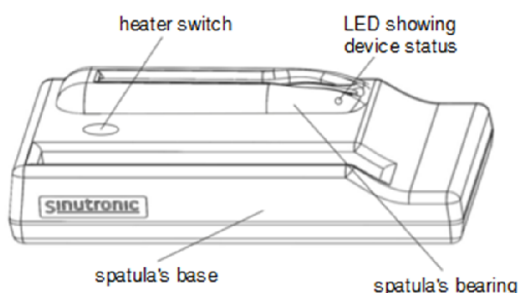
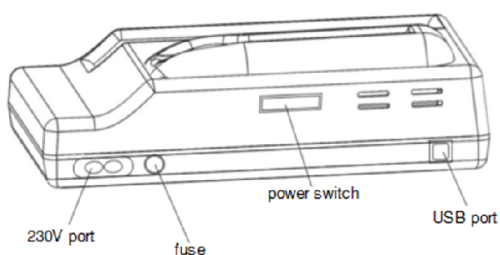
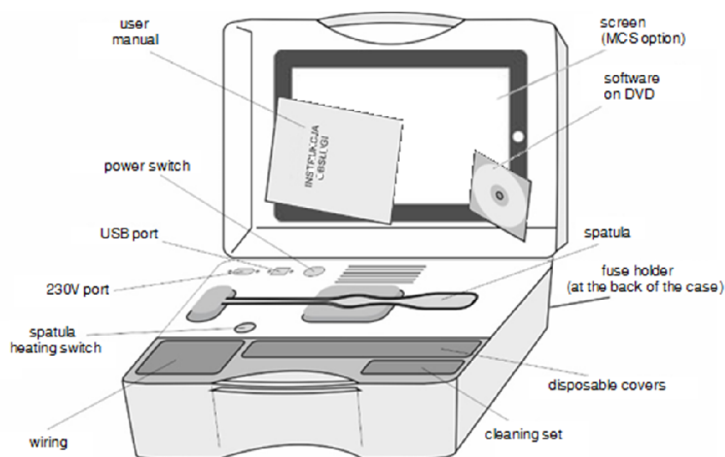

Fig. 2 Front view of base model L/LS/LCS/UC/UCS
Fig. 3 Rear view of base model L/LS/LCS/UC/UCS
Fig. 4 Base model M/MS/MCS
1. Place the spatula in the base bearing (Fig.2 or Fig. 4).
2. Turn the base on using the button (Fig. 3 or Fig.4). The sound alarm and red colour of the LED diode (Fig. 2 or Fig. 4) indicate that the charging process has begun.
To prevent the optical elements from fogging heat up the spatula before each examination. To do this (after placing the disposable cover on the spatula – see section 13.3) press the heat up button (Fig. 2 or Fig. 4) directly before the examination. It is recommended that the spatula was placed with the camera facing down. The red colour of the LED diode and a sound signal indicate that the stream of hot air has begun the heating process. The process lasts for about 45 seconds, and it is completed when the LED diode goes green and a sound signal is emitted. To prevent accidental over-heating of the device restart the heating no sooner than after 45 seconds until the LED diode will have turned off. The device will not react if the button is pressed before this time has passed.